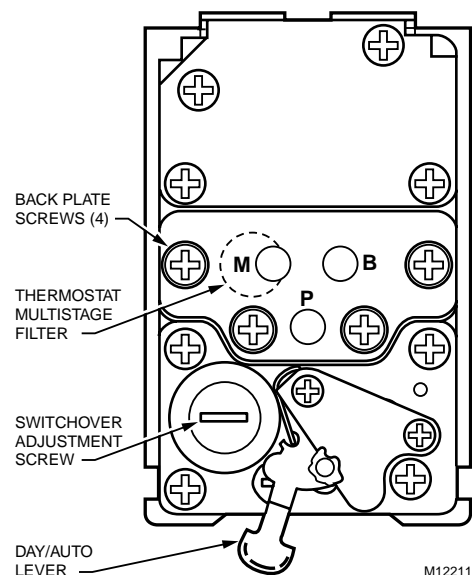

Fig. 16. Back View of Thermostat Showing Switchover Adjustment Screw and DAY/AUTO Lever.
3. BLP gage should read 0 psi (0 kPa) (RA) or 13 psi (90 kPa) (DA). If it does not, turn switchover adjustment screw (Fig. 16) clockwise until it does.
4. Turn the switchover adjustment screw counterclockwise until the pressure begins to increase (RA) or decrease (DA). This indicates switchover. Allow the gage to go to full line pressure (RA) or 0 psi (0 kPa) (DA).
5. Turn the switchover adjustment screw counterclockwise until pressure decreases to 0 psi (0 kPa) (RA) or increases to full main line pressure (DA). Turn the switchover adjustment screw an additional 1/8 to 1/4 turn clockwise. Switchover is calibrated.
3. BLP gage should read 0 psi (0 kPa). If it does not, turn the switchover adjustment screw (Fig. 16) clockwise until it does.